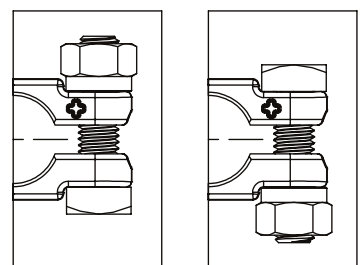

FIGURE 2
4. ATTACH THE BASE ASSEMBLY TO THE POSITIVE BATTERY POST OVER THE COVER. SECURE THE ASSEMBLY BY TIGHTENING THE M8 SHOULD HEX NUT TO $12\pm 1\text{N}\cdot\text{m}$. M8 NUT AND BOLT CAN BE ASSEMBLED IN LEFT OR RIGHT HAND ORIENTATION FOR BEST ACCESS DURING ASSEMBLY (FIGURE 2).